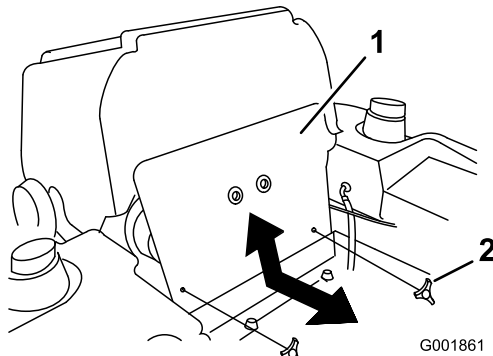

Figure 55
1. Tilt the seat forward and remove the front engine panel (Figure 55).